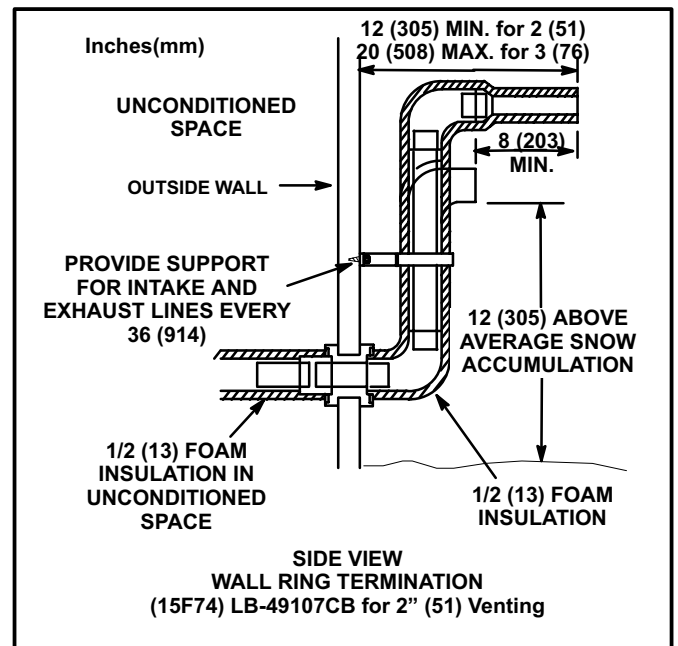
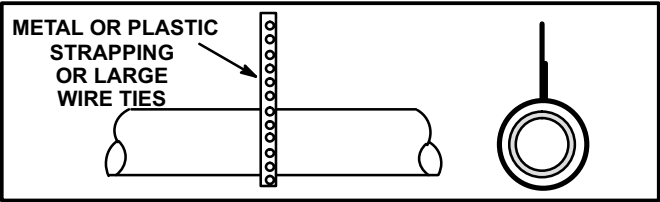
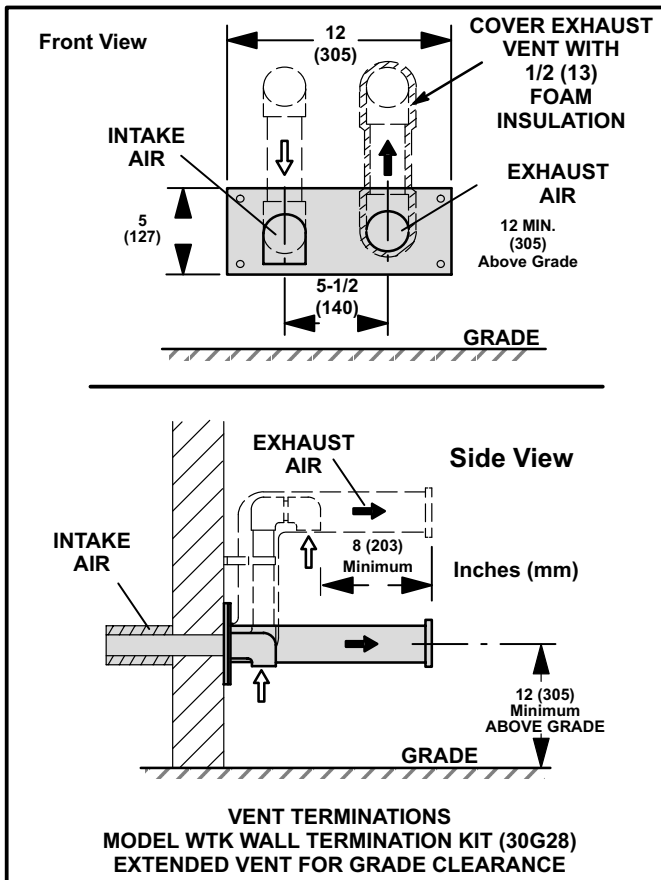
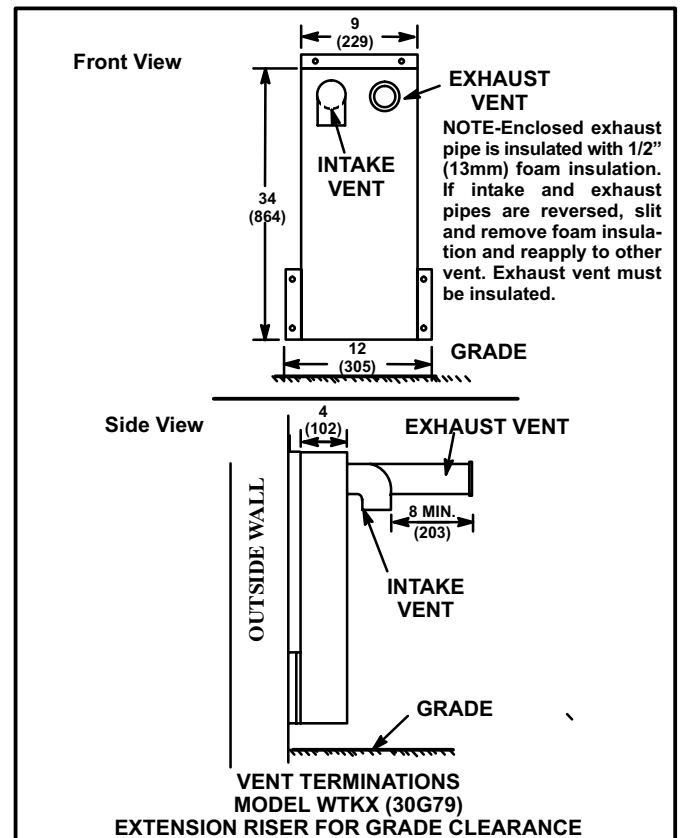

FIGURE 26
FIGURE 28
FIGURE 31
FIGURE 32
- 8 - If intake and exhaust piping must be run up a side wall to position above snow accumulation or other obstructions, piping must be supported every 3 ft. (.91m) as shown in figure 28. Refer to figures 26 and 27 for proper piping method. WTK wall termination kit must be extended for use in this application. See figure 31 or use kit WTKX shown in figure 32. When exhaust and intake piping must be run up an outside wall, the exhaust piping is reduced to 1-1/2" (38mm) after the final elbow. The intake piping may be equipped with a 90° elbow turndown. Using turndown will add 5ft. (1.5m) to the equivalent length of the pipe.